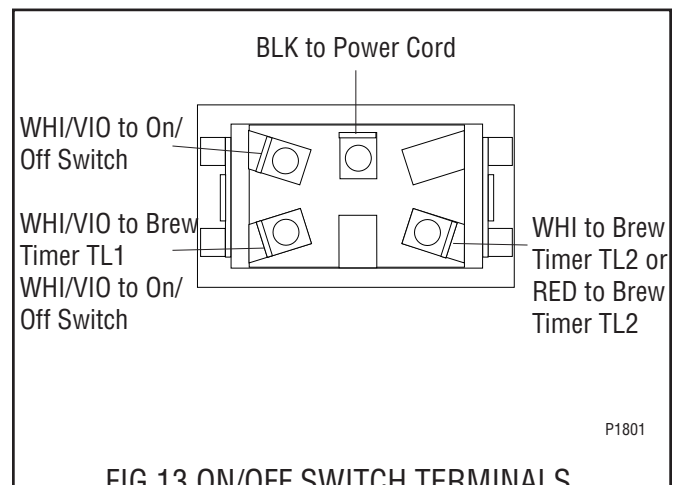

FIG. 13 ON/OFF SWITCH TERMINALS
4. Refer to FIG. 13 when reconnecting the wires.